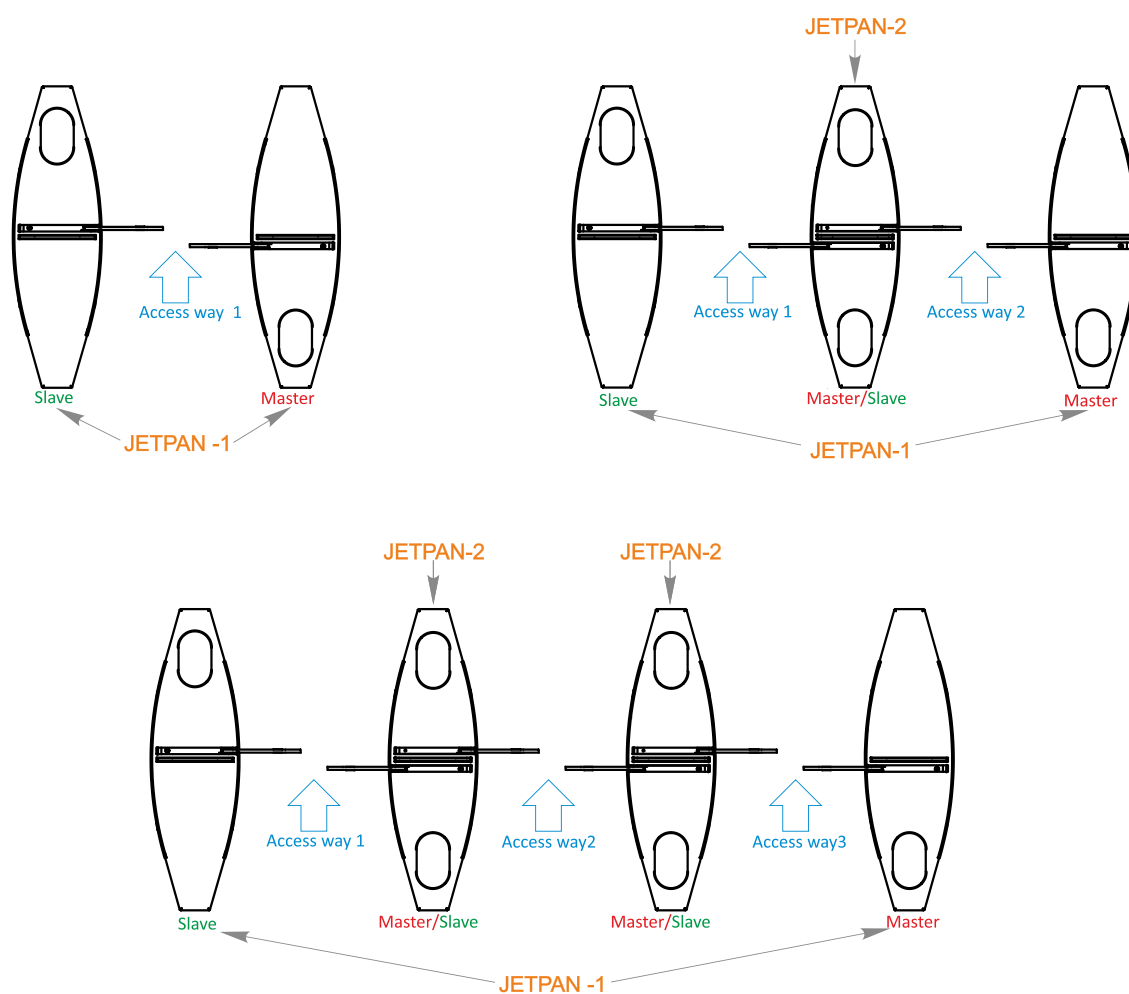

Fig. 14 – «JetPan-BM» type turnstile layout options
2.2.5 General layout of the “JetPan-BM” turnstile passage ways (Fig. 14)